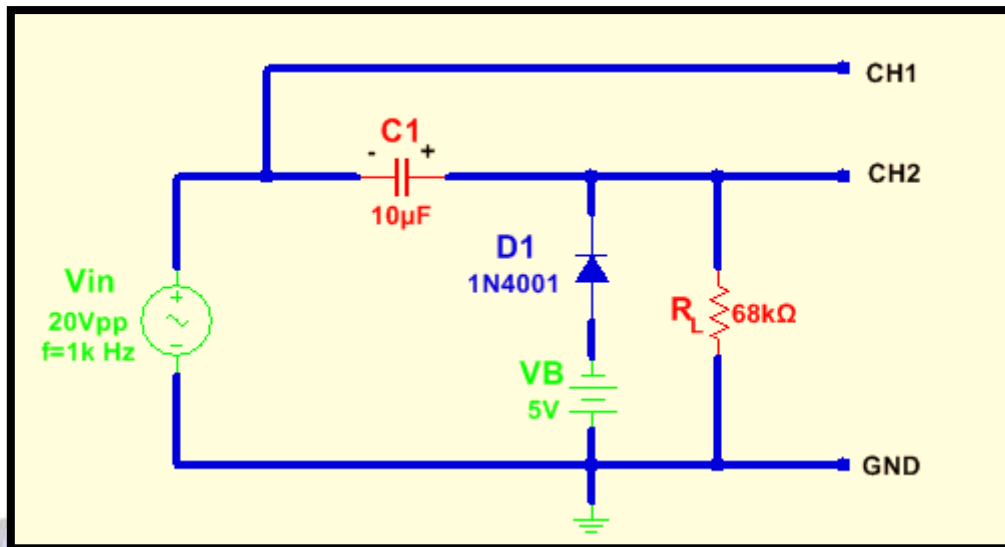

Figure 12: Practical Biased Positive Clamping Circuit
- Connect the biased positive clamping circuit shown in Fig.12, and apply a 10Vpp sinusoidal input waveform with frequency of 1 kHz at the input. Display and sketch the input and the output waveforms.